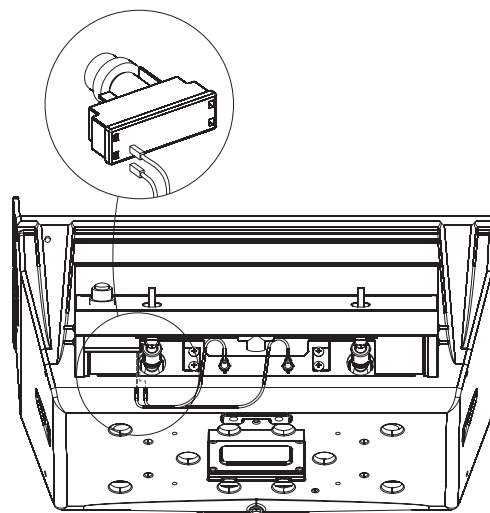

Figure 29
6. Remove ignitor from the control panel by unscrewing the ignitor button and nut. Attach ignitor wires to terminals on the ignitor. **See Figure 29.**